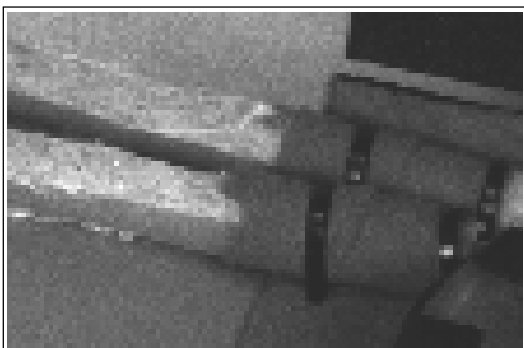

FIGURE 24 - WRAP FELT TAPE AROUND UNITUBE
13.04 Thoroughly clean the Unitube for the first 2" from the fiber. Wrap two (2) layers of felt tape around the Unitube as shown in Figure 24.
13.07 For cut cables use the tie wraps provided to secure the two (2) main cables to the inside tie wrap locations. (Figure 24)